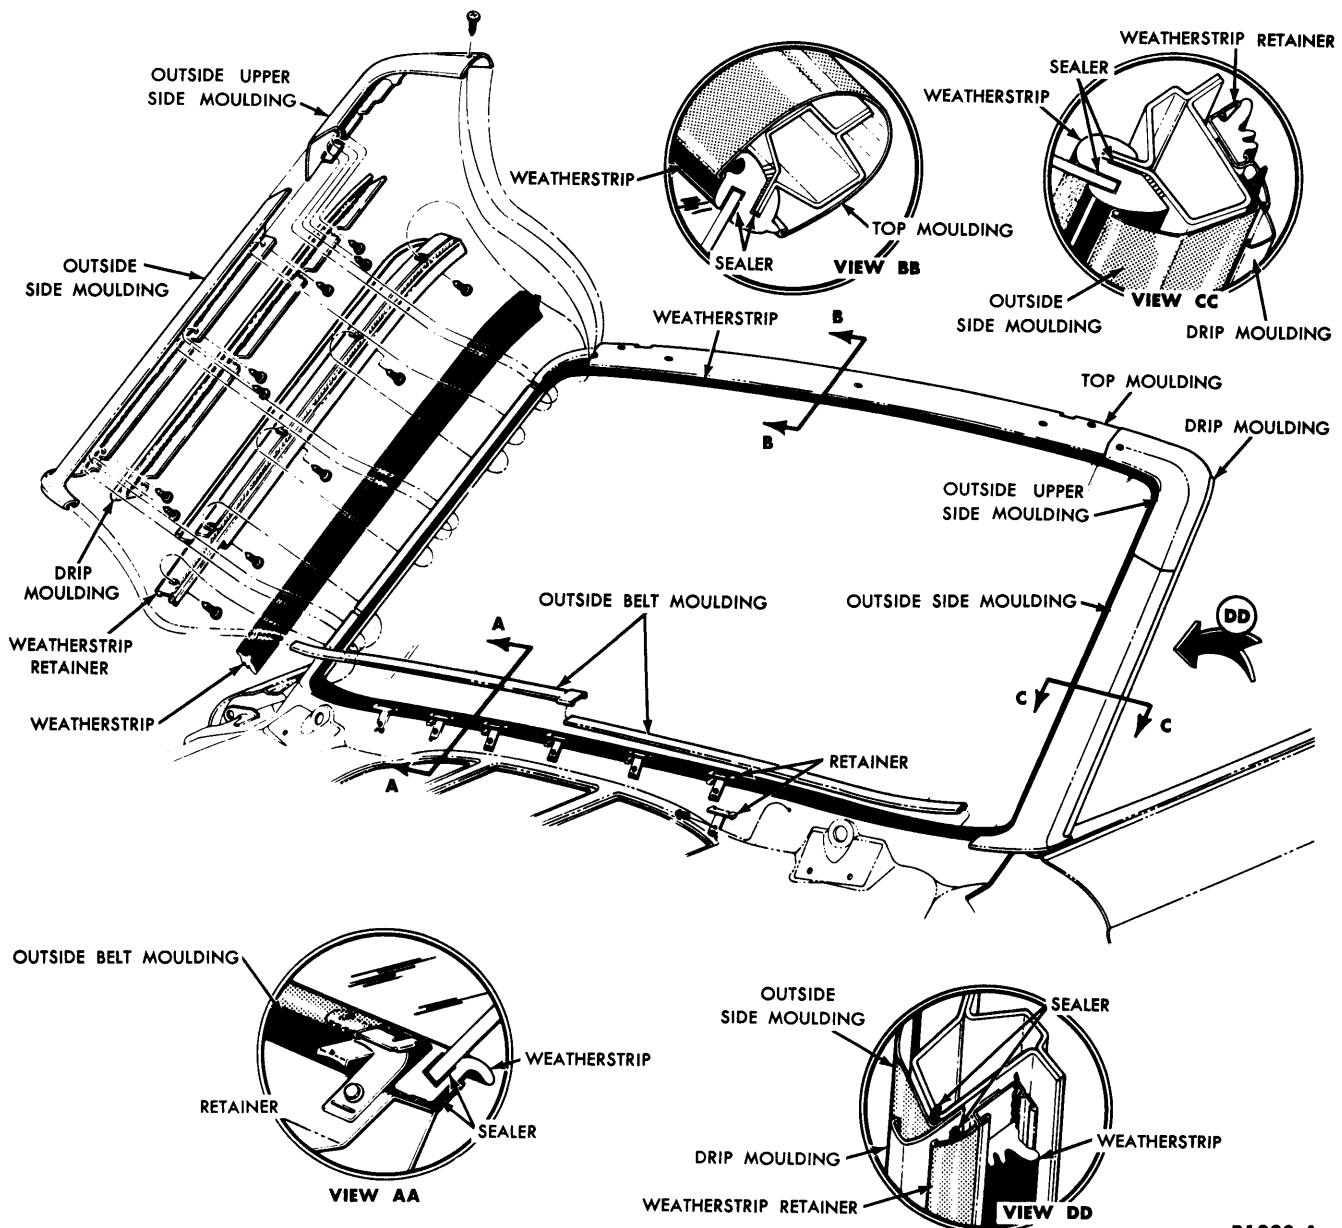

FIG. 35—Windshield Outside Mouldings
3. Remove 2 screws and remove the right and left windshield pillar weatherstrips (Fig. 35).
14. Install the right and left windshield upper side mouldings (Fig. 35).